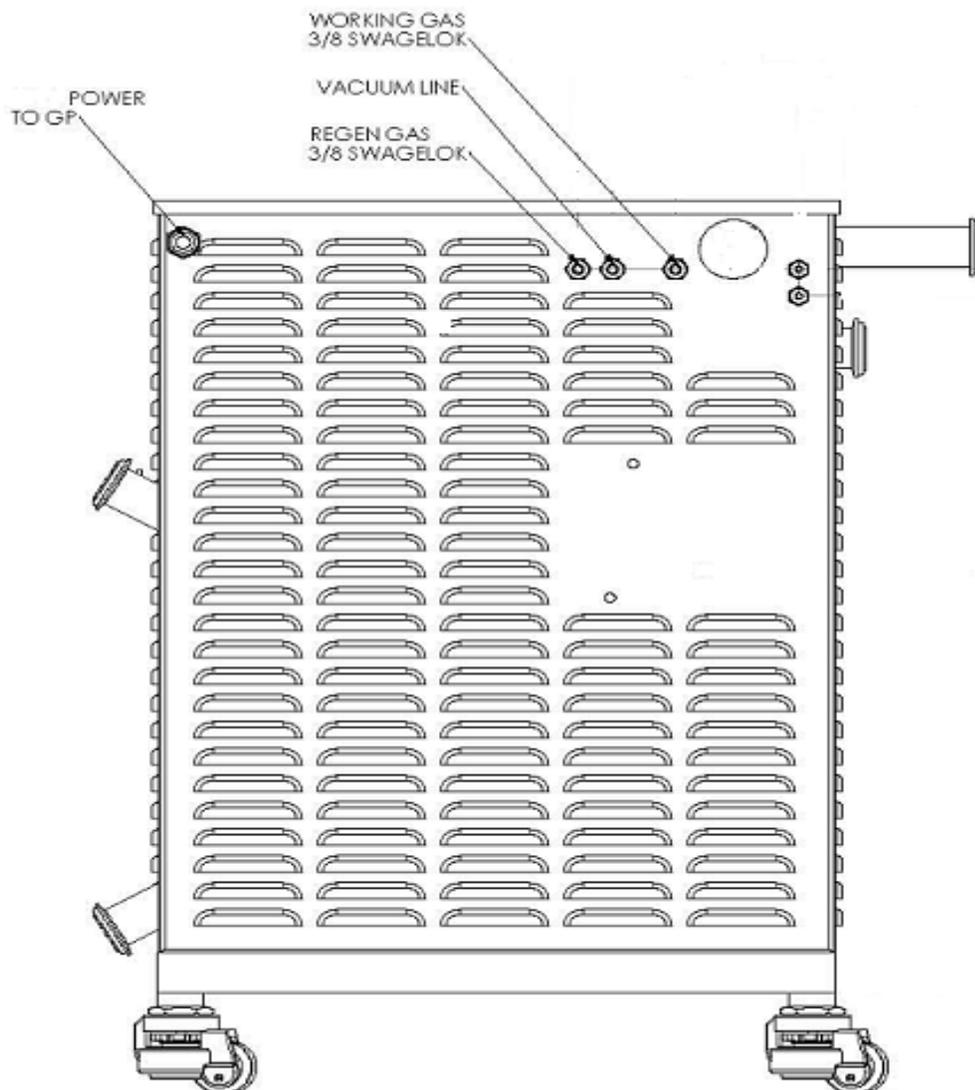

Figure 1 PureLab HE
The PureLab HE (Figure 1) is designed to be a completely modular system. The gas purification system is contained within a separate module that is located beneath the large Antechamber. This module has casters allowing easy movement for servicing.
- 1 See Glovebox layout drawing (Figure 1).